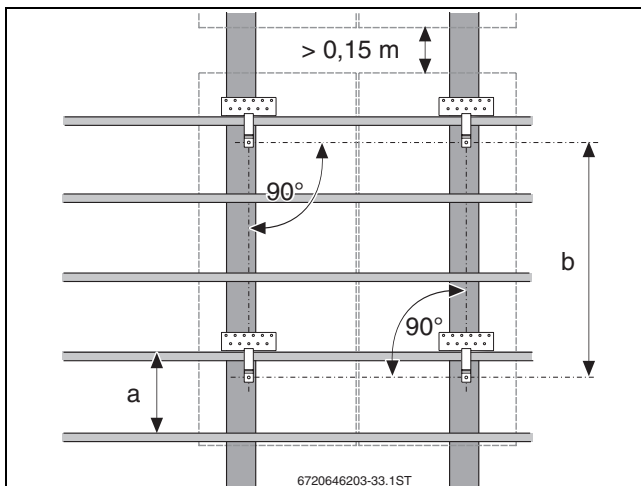

Fig. 16 Distances to be maintained and rafter width
- ▶ In order to install the mounting brackets, you must determine the distances for them. Please observe the following guidelines (→ Fig. 16):
- ▶ Maintain the distance between the mounting brackets (→ Fig. 16).
- ▶ Always choose the largest possible distance between two vertical mounting brackets (→ Fig. 16, Dimension b).
- ▶ Define mounting bracket positions (→ Fig. 16 to 20 and Tab. 10).
i For roof batten spacing of 370 mm (SKR6.1, SKR12.1) and 450/460/470 mm (SKR6.1), install the mounting brackets at a distance from the roof batten. Accurate spacing is required to achieve the correct dimension b (Fig. 16).